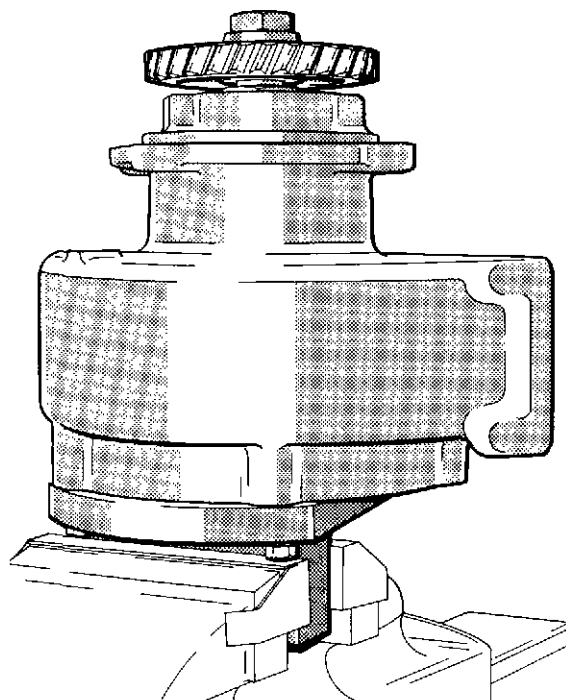

Fig. 4 Using the locking plate
- 16 Using three setbolts, secure the locking plate, VT 10681, to the pump assembly with the slot in the peg engaging with the end of the impeller shaft. Secure the locking plate in a vice (fig. 4).